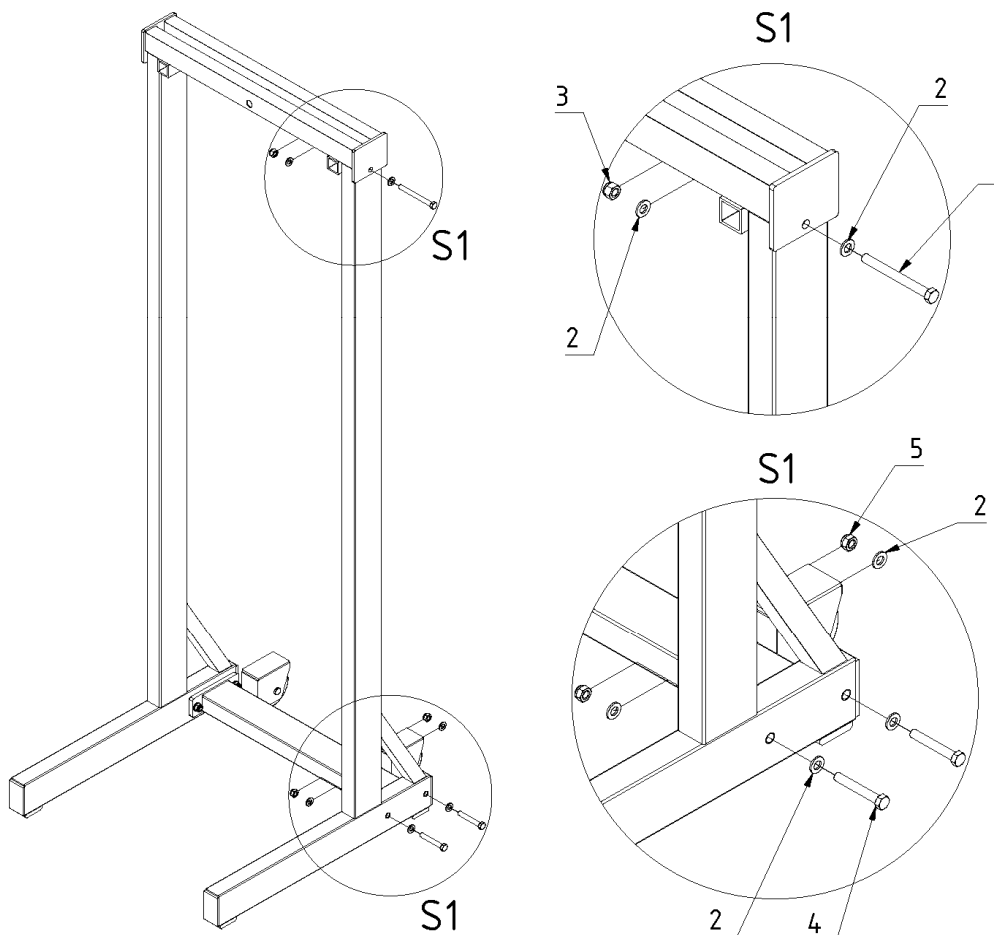

Fig. 1
7.1 If the stone block lifting device has been dismantled (into its individual parts), please reassemble the components as shown in Fig. 1.